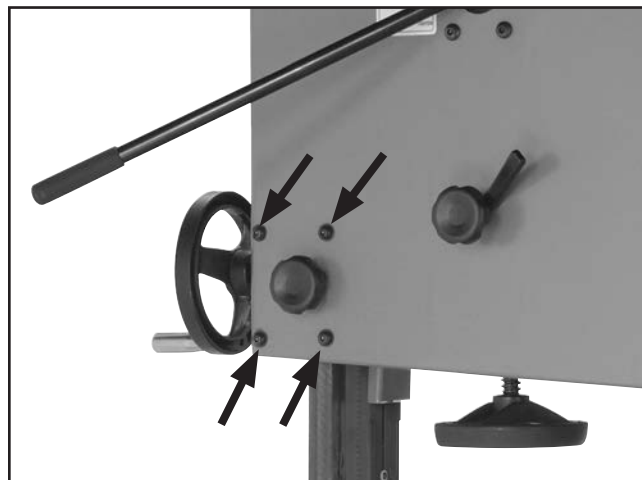
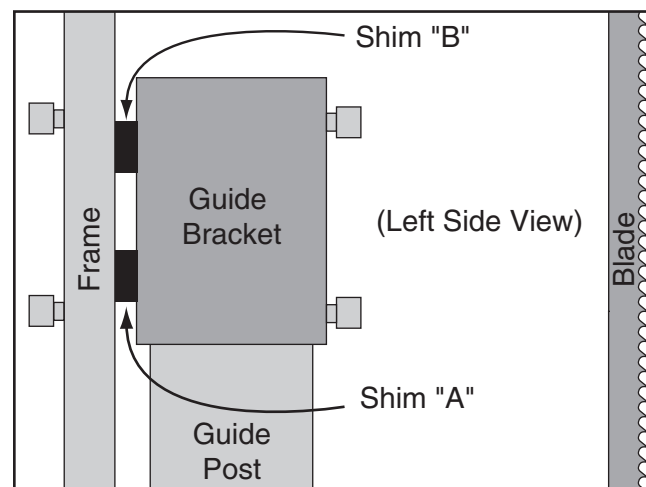

Figure 98. Guide post adjustment screws.
Figure 100. Location for placing shims.
4. Loosen each of the four screws shown in **Figure 98** ¼ turn.
6. Tighten the screws shown in **Figure 98**.
7. Loosen the four screws shown in **Figure 98** on the previous page enough to fit metal shims between the frame and the guide post bracket (see **Figure 100**).
8. Tighten the four screws shown in **Figure 98** on the previous page, then repeat **Steps 4–5**.